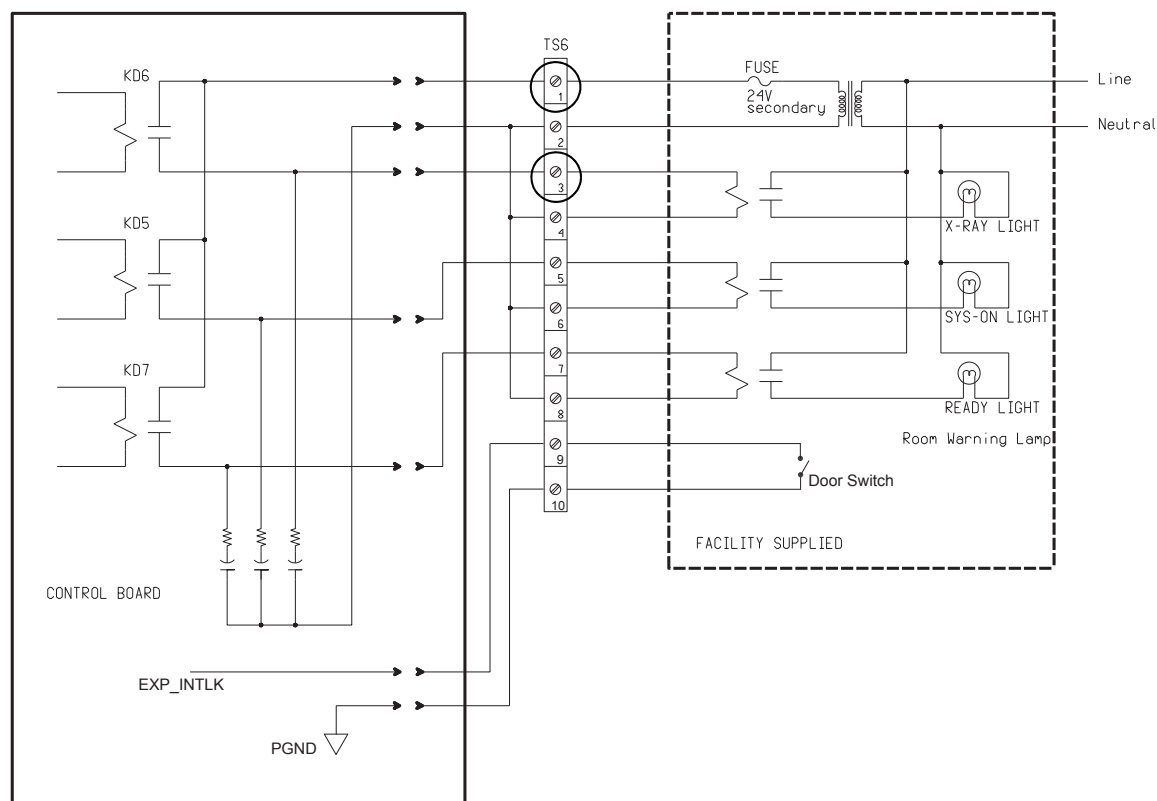

Figure 2-43 Typical TS6 Warning Light & Door Interlock Connections
- 2.) This step is site-specific. The PDU by default is configured for no external warning light connection. If you have external warning lights, see Figure 2-43 for proper connection.
It is recommended that you use the four (4) wire method of adding an x-ray warning light to a room, as shown in Figure 2-43. When using this method, you: